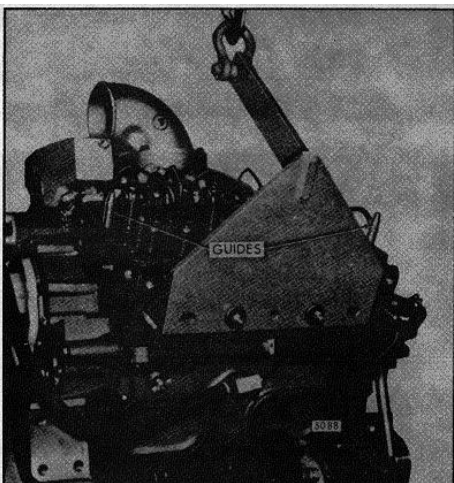

Fig. 2 - Lifting Cylinder Head Assembly Off Cylinder Block with Tool J 22062-01
4. On a V-type engine, refer to Fig. 2 for the location and install the 3/8 "-16 x 1 " bolts with lock washers. Also install the two special washers and two 1/2 "-13 x 1-1/2 " bolts as shown when the fuel pump is driven off the camshaft, or one special washer and bolt when the fuel pump is driven by the accessory gear. Tighten the 3/8 "-16 bolts to 30-35 lb-ft torque and the 1/2 "- 13 bolts to 71-75 lb-ft torque.
11. Remove the cylinder head bolts. Then, lift the cylinder head off of the cylinder block, with lifter tool J 22062-01 (Fig. 2).
2. To install the cylinder head on the engine without disturbing the gaskets and seals, use guide stud set J 9665. Install the guide studs in the end cylinder block bolt holes (Fig. 2).